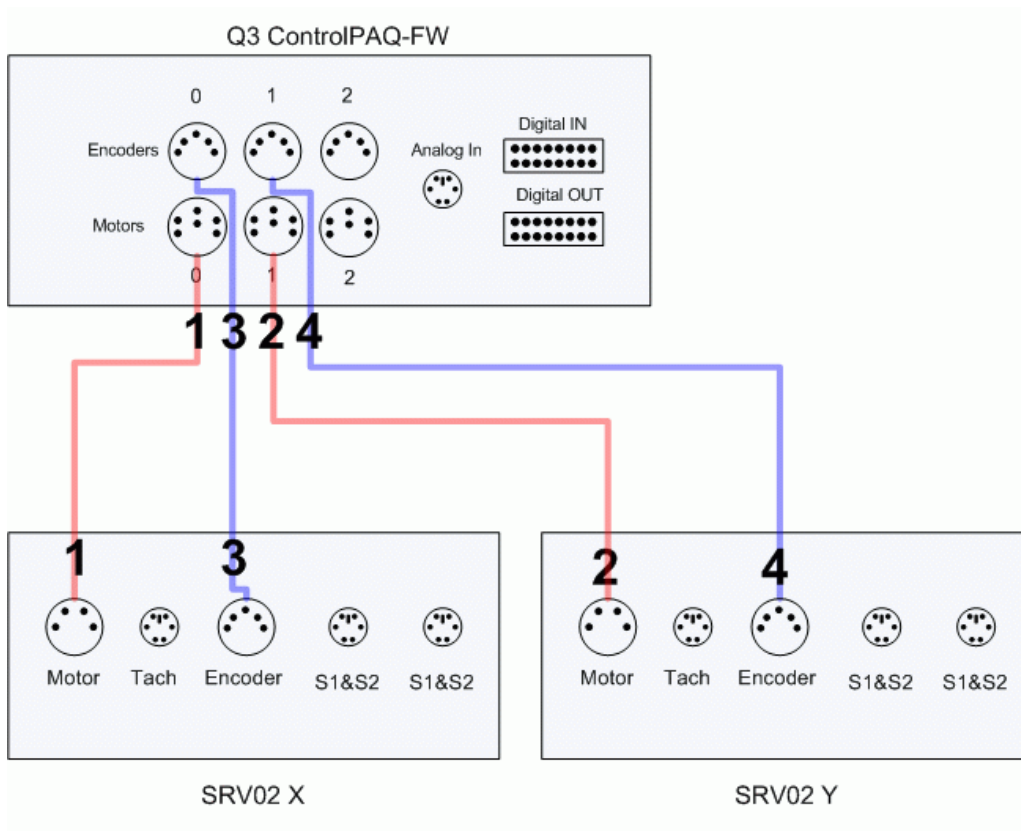

Figure 22: 2DBB connection diagram when using Q3
3. Connect the 4-pin-stereo-DIN to 6-pin-stereo-DIN from *MOTORS 0* connector on the Q3 to the *Motor* connector on the x-axis SRV02. See connection #1 shown in Figure 22. The cable transmits the current that is applied to the x-axis SRV02 motor and is denoted $I_{m,x}$.
4. Connect the 4-pin-stereo-DIN to 6-pin-stereo-DIN from *MOTORS 1* on the Q3 to the *Motor* connector on the y-axis SRV02. See connection #2 shown in Figure 22. The cable transmits the current that is applied to the y-axis SRV02 motor and is denoted $I_{m,y}$.
6. Connect the 5-pin-stereo-DIN to 5-pin-stereo-DIN cable from the *Encoder* connector on the y-axis SRV02 panel to *ENCODER 1* on the Q3 board, as depicted by connection #4 in Figure 22. This carries the y-axis load shaft angle measurement and is denoted by the variable $\theta_{1,y}$.